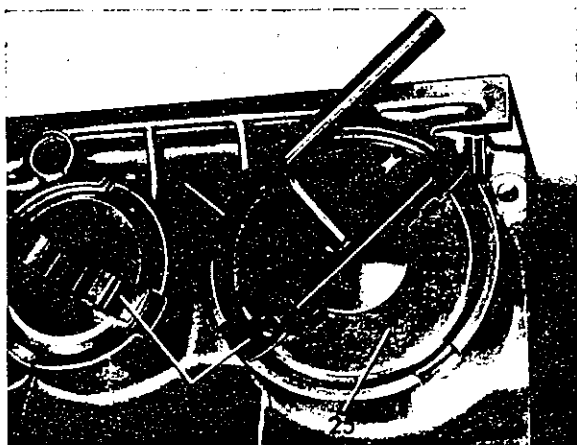

Fig. 12
15 Remove snap ring (24) from brake band piston cover B 2 (25) and pull off brake band piston cover (25) with remover handle 115 589 05 33 00 **Fig. 12**